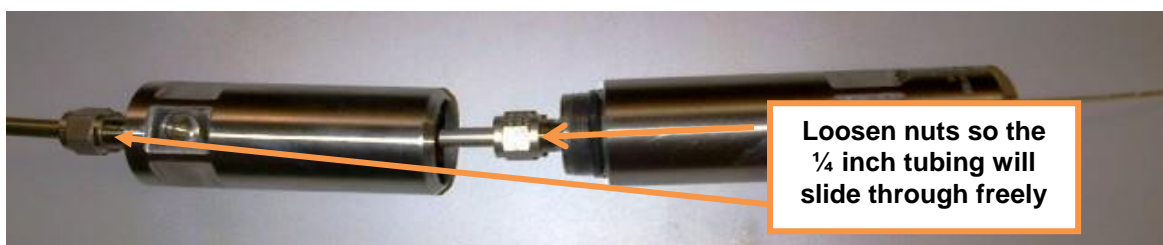

Figure 10. Installing the connector housing over the 1/4" tubing.
7. Lightly grease the 1/4" tubing. Slide the connector housings over the 1/4" tubing. To do this, it may be necessary to loosen the nuts on the tubing fittings. Figure 10.